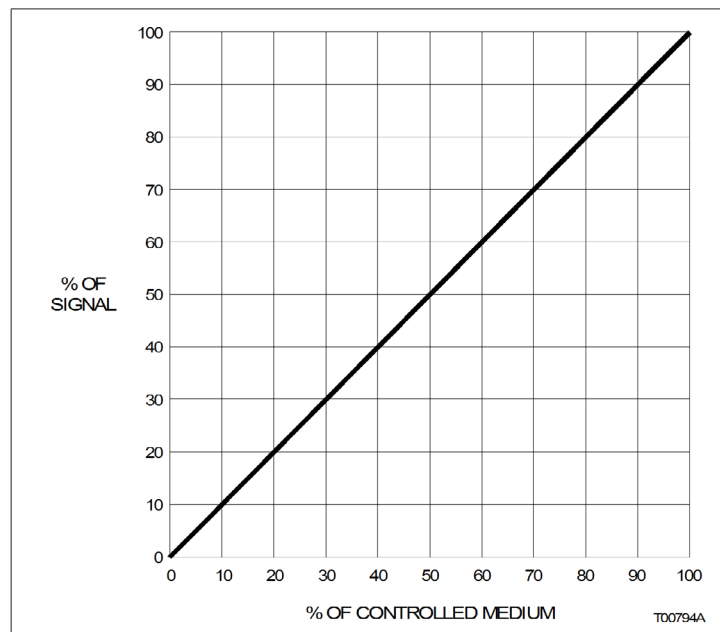

Figure C-5. Desired Control
2. Plot the exact control medium versus control signal characteristic given or desired for the application. This is usually a linear function (Fig. C-5).